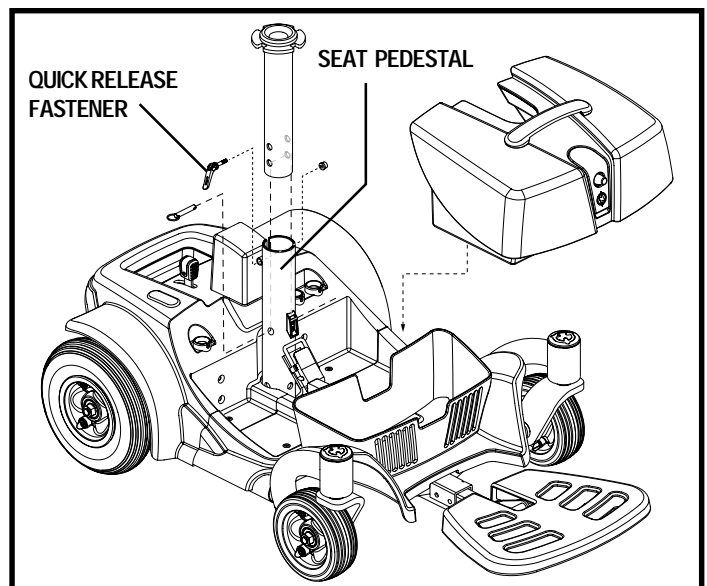
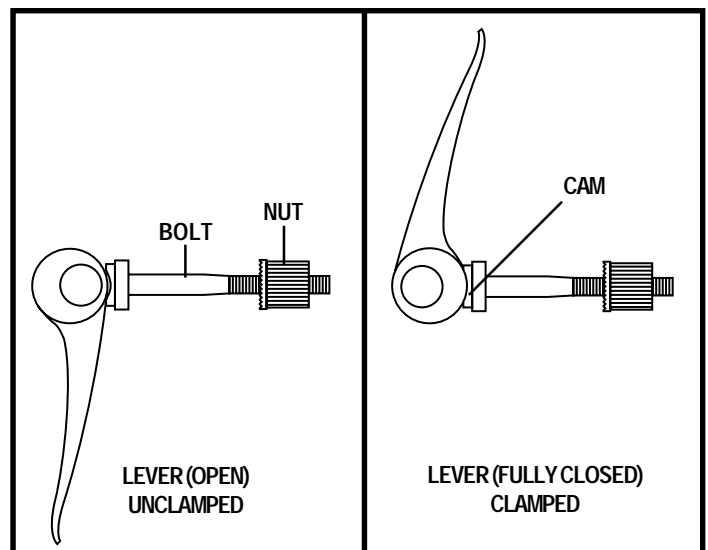

Figure 16. Seat Height Adjustment
Figure 17. Quick Release Fastener Operation
5. Loosen the quick release fastener. See figure 16.
9. Tighten the quick release fastener. See figure 17.
The quick release fastener removes excess play in the seat pedestal. See figure 16. The quick release fastener consists of a bolt, a lever, and a nut. See figure 17. The lever has a cam on the end that allows it to clamp into place. The quick release fastener has two states: clamped and unclamped. When the lever is open, the quick release fastener is unclamped. When the lever is closed, the quick release fastener is clamped.